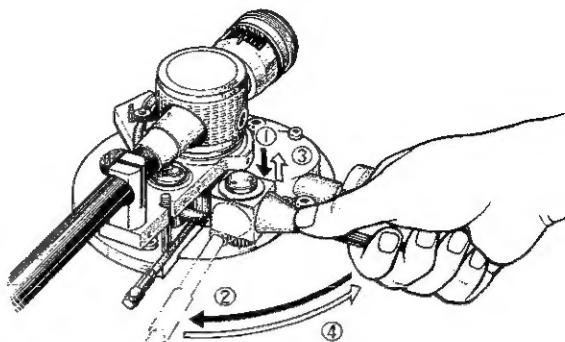

Fig. 14
- 4 After adjusting the tonearm height, lock the tonearm as follows. (Fig. 14)
- ① Depress the lock lever to engage the gears.
- ② Keeping the lock lever depressed, pull the lock lever towards you (in the direction of the arrow).
- ③ Release the lock lever to raise it.
- ④ Return the lock lever. Repeating this procedure three or four times will lock the lock lever and tonearm will be fixed securely.